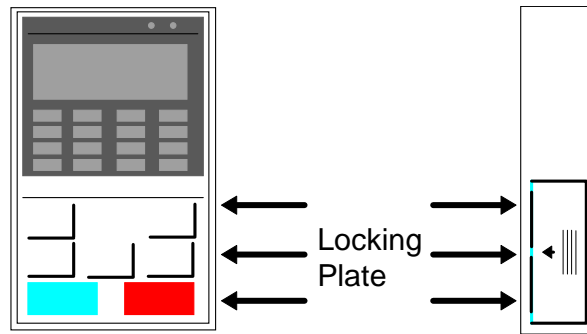

Figure 2. Operator Removal
Step 1. Remove the digital operator, applying pressure to the locking plate on its lower right side, as illustrated in **Figure 2**. Lift the operator out by pulling forward.